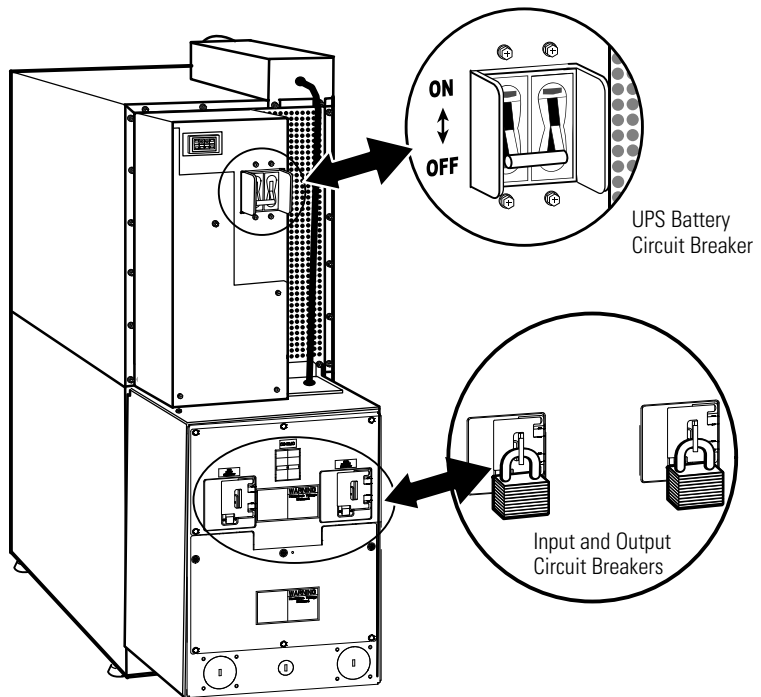

Figure 16. UPS Rear View
1. Verify that the input, output, and battery circuit breakers are in the OFF position (see Figure 16).